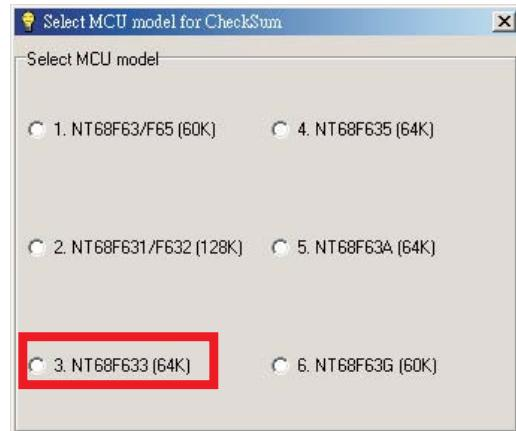

Fig. 10
- From the menu that appears, choose the "NT68F633(64K)" as shown in Fig. 10.